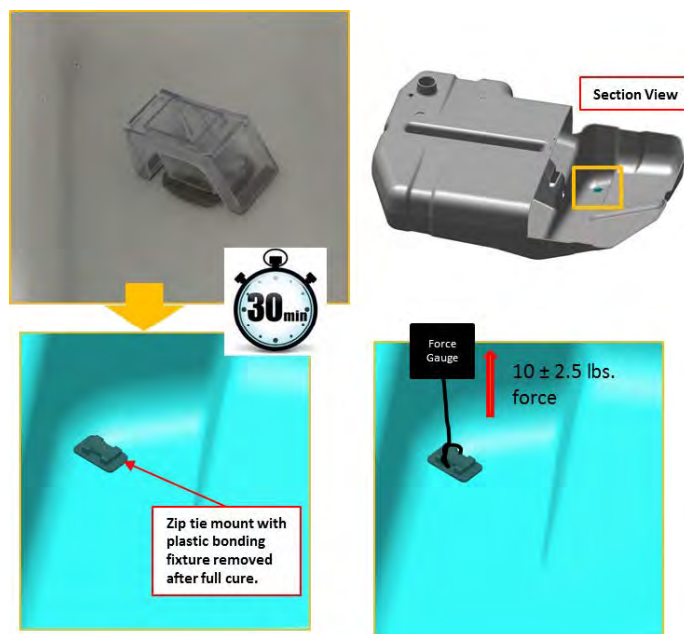

FIGURE 11-15
4. Proof load test the Cable Tie Anchor Mount installed on the interior of the Fuel Tank after at least 30 minutes has elapsed. See Figure 11-15.